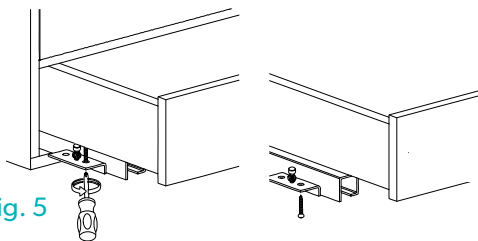
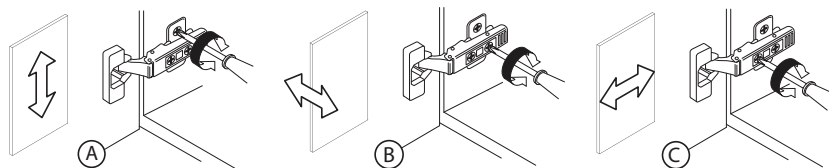

Fig. 5
Fig. 6
7. If necessary, the drawer runners and door fronts can be adjusted in order to fine tune their alignment. Ensure the securing screw on the underside of the drawer runner is removed before adjusting the drawer runner and the screw is resecured when adjustments have been completed. (Fig. 5). For door fronts, fine adjustments can be made to the door by adjusting the small screws as per Fig. 6.
12. If necessary, the door(s) can be adjusted to align them with the tall unit carcass. This is done by adjusting the small screws on the hinges (see Fig. 6).